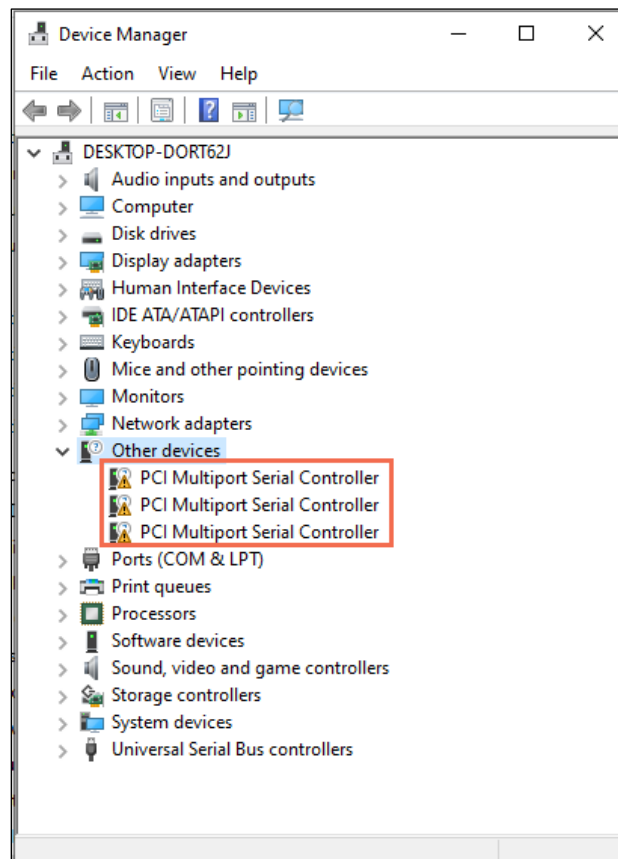

Figure 4.23. Device Manager
1. Open **Device Manager**, which shows the connected PCIe devices, as shown in Figure 4.23.